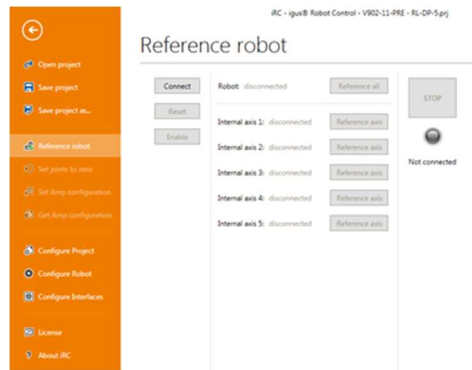

Figure 7.4: Referencing window.
4. Click the buttons to start referencing the axes, see Figure 7.4. Several joints can perform the referencing in parallel.